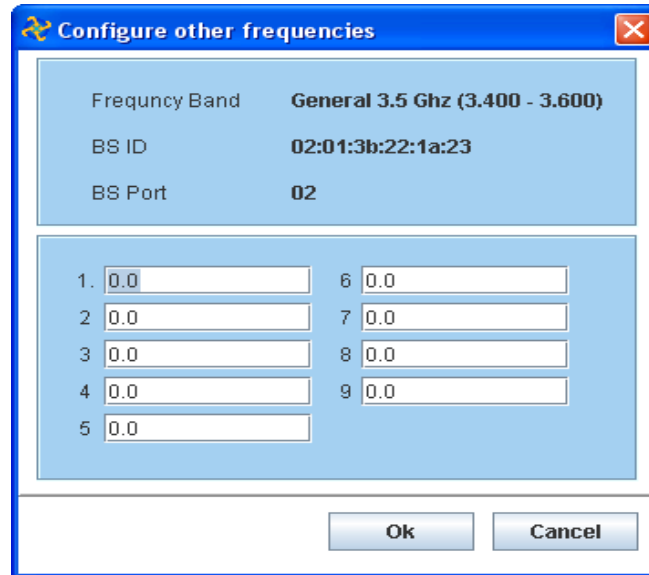

Figure 3-6 Configure Other Frequencies Window
5. If Automatic Frequency Selection (AFS) is desired, you can click on the **Other Frequencies** button to open the AFS Frequencies window shown in Figure 3-6. AFS will be enabled if you specify at least one alternate frequency.